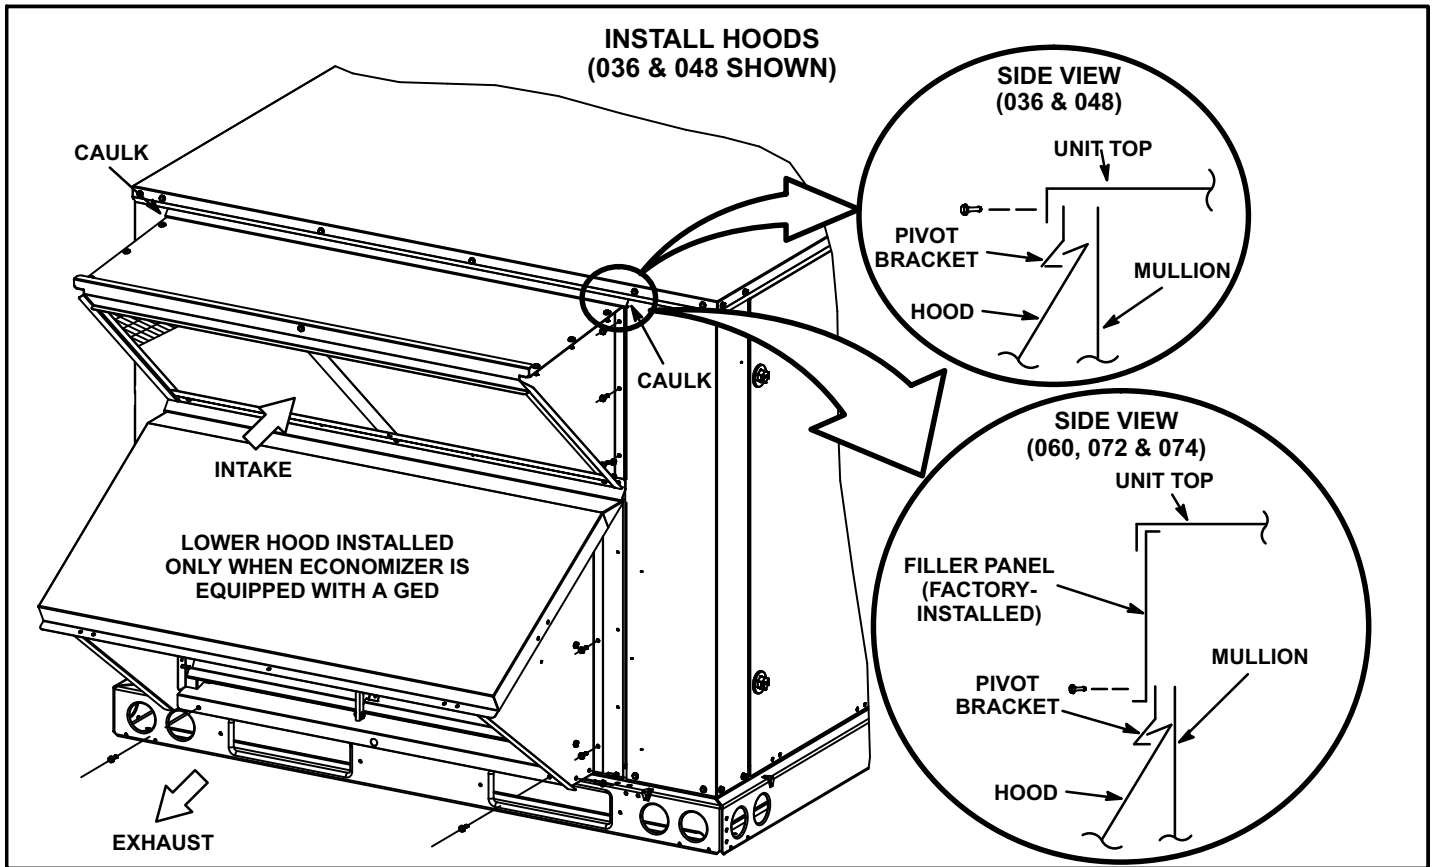

FIGURE 8
- 4- Install hoods on unit as shown in figure 8.